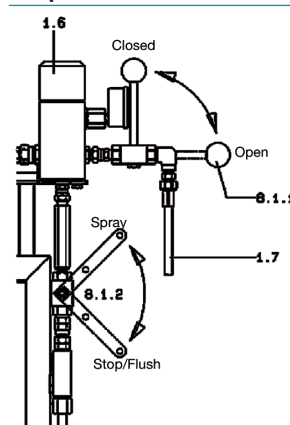

Figure 7.1.1
- Set the lever (standard mixer: Fig. 7.1.1, Pos. 8.1.2 / external mixer Fig. 7.1.2, Pos. 8.2.2) to "FLUSH".
The lever (standard mixer: Fig. 7.1.1, Pos. 8.1.1 / external mixer: Fig. 7.1.2, Pos. 8.2.1) remains in position "CLOSED/ Return flow closed".
- To relieve the pressure shift the lever (standard mixer: Fig. 7.1.1, Pos. 8.1.1 / external mixer: Fig. 7.1.2, Pos. 8.2.1) forward to position "OPEN / Return flow open", until both pressure gauges on the high pressure filters (chapt. 3, Pos. 1.6) or the pointer of the contact pressure gauge (chapt. 3, Pos. 2.3) of the pressure and dosing monitoring unit (optional) indicates 0 bar.
- After the ventilation return the lever (standard mixer: Fig. 7.1.1, Pos. 8.1.1 / external mixer: Fig. 7.1.2, Pos. 8.2.1) to position "CLOSED/ Return flow closed".
- Shift the lever (standard mixer: Fig. 7.1.1, Pos. 8.1.1 / external mixer: Fig. 7.1.2, Pos. 8.2.1) to position "OPEN/ Return flow open".
- Set the lever (standard mixer: Fig. 7.1.1, Pos. 8.1.2 / external mixer: Fig. 7.1.2, Pos. 8.2.2) to "STOP / FLUSH".
- Shift the lever (standard mixer: Fig. 7.1.1, Pos. 8.1.1 / external mixer: Fig. 7.1.2, Pos. 8.2.1) up to position "CLOSED/ Return flow closed".